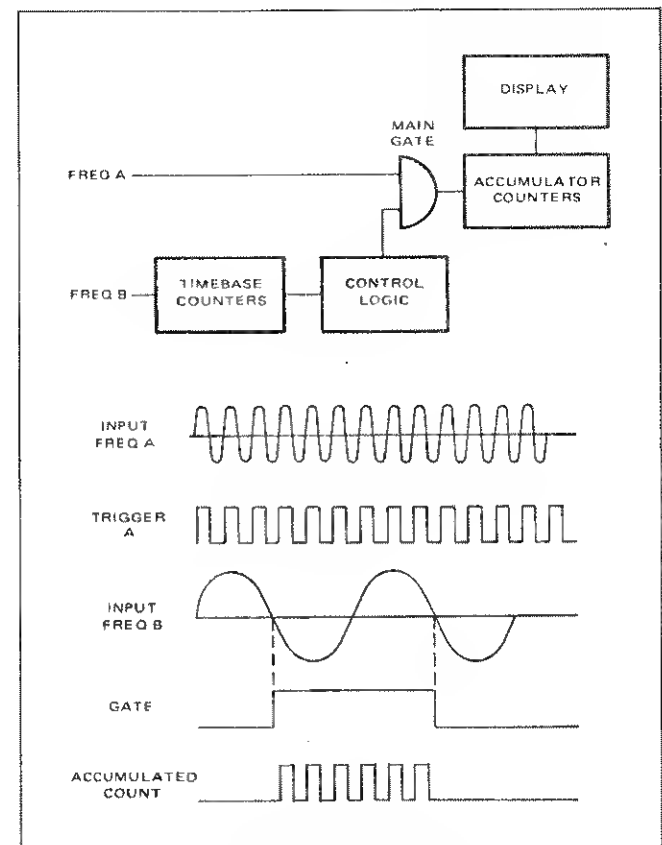

Figure 4.10 - A/B Ratio
4.3.10.1 This mode is identical in function to the frequency measurement modes, but substitutes an external signal for the reference signal (figure 4.10).